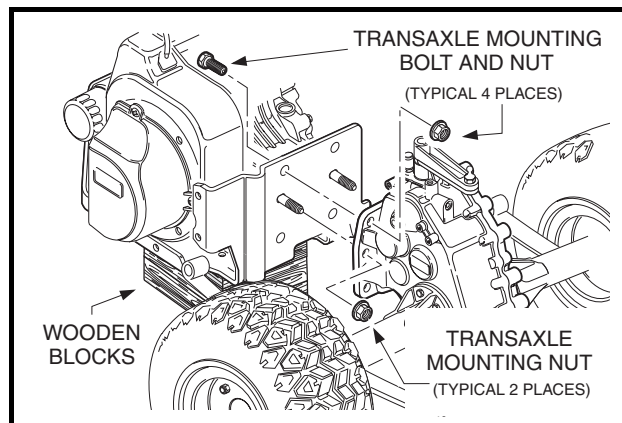

Figure 18-36 Transaxle Mounting
3. Position the transaxle mounting plate on the two mounting studs at the rear of the engine, and then install the two mounting nuts finger tight (**Figure 18-36, Page 18-14**).
5. Tighten the four corner nuts (with bolts) to 30 ft-lb (40.7 N·m). Tighten the two center nuts (on the engine block studs) to 17 ft-lb (23.1 N·m) (**Figure 18-36, Page 18-14**).